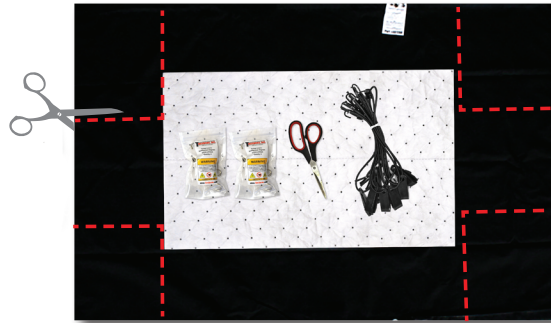

Figure 2
3. Back machine off of DripDiaper and complete cut outs for tires at notches - Fig. 2.